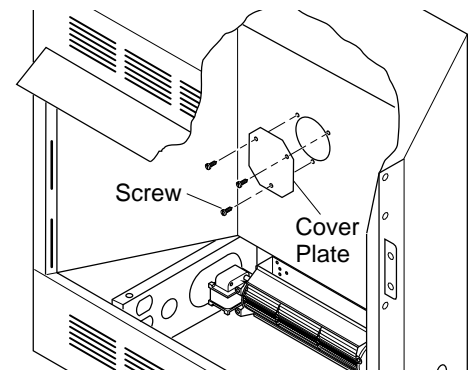

Figure 4 - Removing Cover Plate
7. Remove the three screws (do not discard) and cover plate from center of firebox wrapper rear wall (see Figure 4). Discard this cover plate.